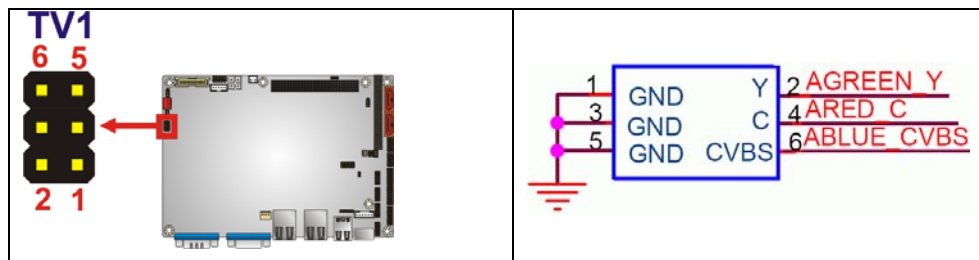

Figure 4-23: TV Connector Pinout Locations
- CN Location:** See **Figure 4-23**